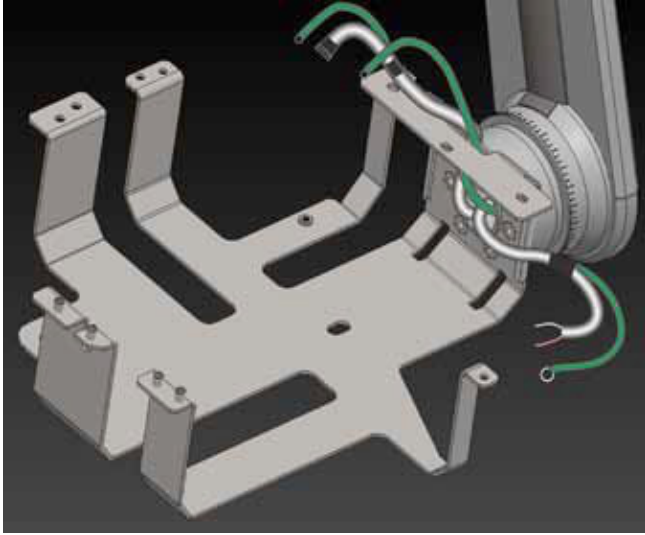

Figure 59
- Route the scissor-arm cables as shown in Figure 59 .